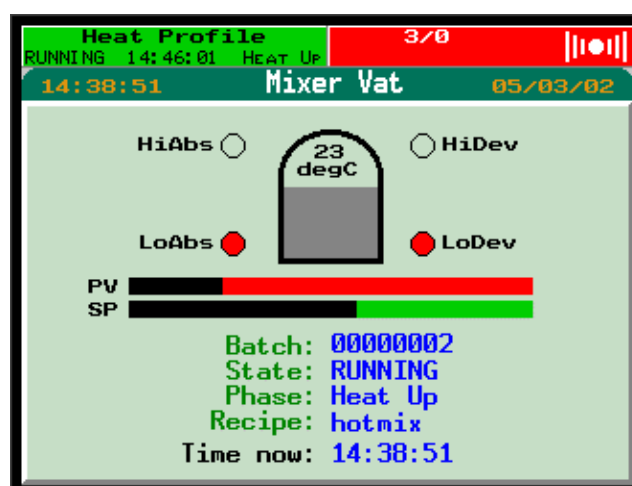

Figure 7-2 The user screen in action
Figure 7-2 shows how the finished user screen might look, near the beginning of a batch run.
- 4 Now use the **Text** tool to create the ‘HiAbs’ legend, and position it alongside the ‘lamp’, see Figure 7-2. Locate the graphics near the top left of the vat.
- 4 Copy the bargraph plus legend and paste the copy just below the original (see Figure 7-2).